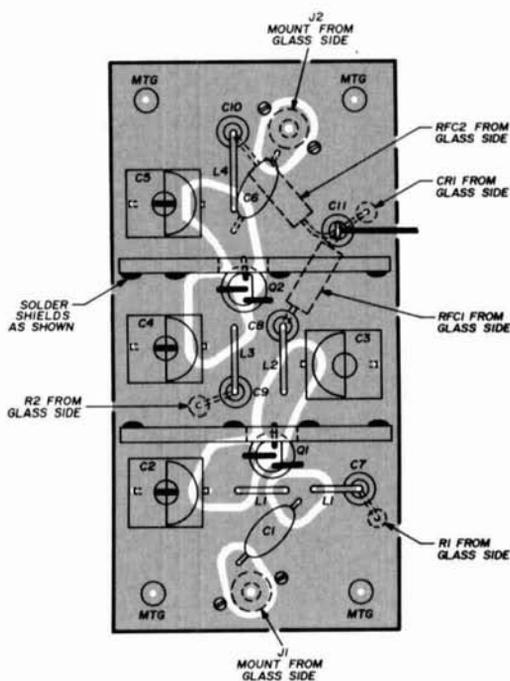

fig. 5. Component layout for the uhf preamplifier. Circuit board is shown in fig. 6.
Basic uhf converter covers the range from 420 to 470 MHz. Printed-circuit layout is shown in fig. 5.
fig. 4. Two-stage uhf preamplifier provides 15 to 25 dB gain. Capacitors C2-C5 are vertically-mounted E. F. Johnson 9-pF air variables. Printed-circuit layout is shown in fig. 5.
2. Spot solder the feedthrough capacitors and variable capacitors in place as shown in the pictorial, **fig. 5**.